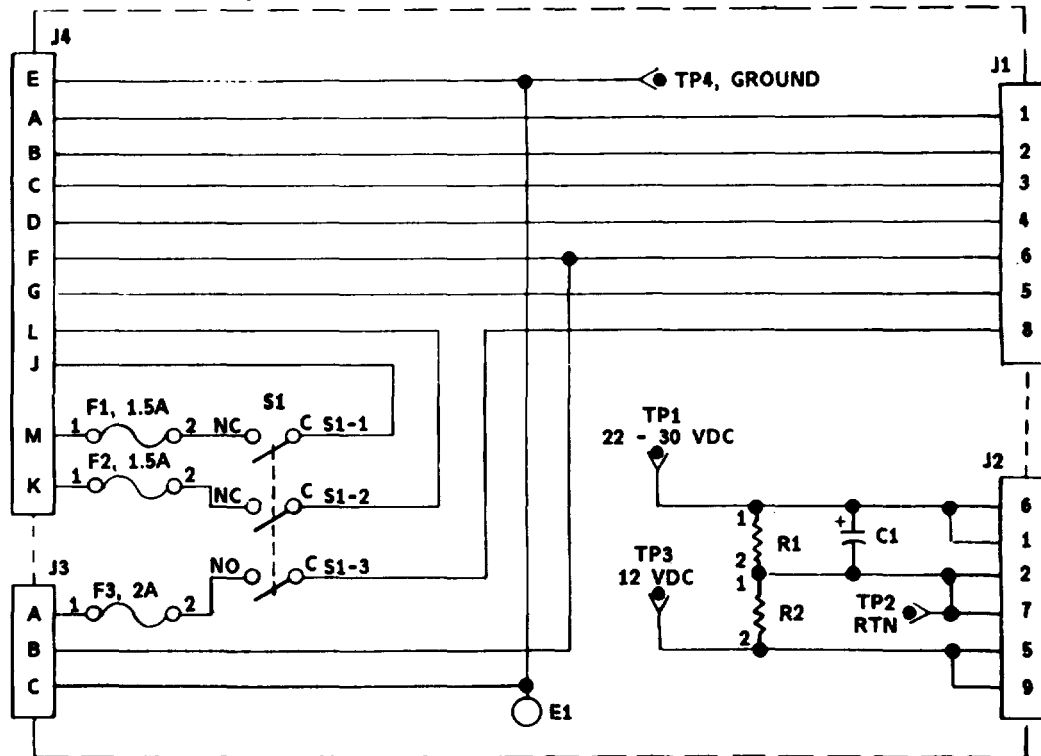

Figure 6-34. FILTER ASSEMBLY TEST FIXTURE SCHEMATIC DIAGRAM
- A. FILTER ASSEMBLY TEST FIXTURE TEST PROCEDURES. (See figure 6-34. )